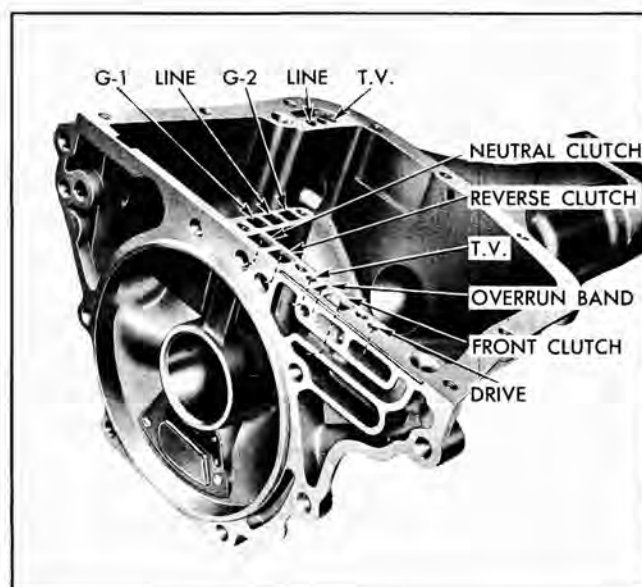

Fig. 103 Rear Bearing Retainer Passages
1. Inspect rear bearing retainer for hair line cracks or leaks (Fig. 103).